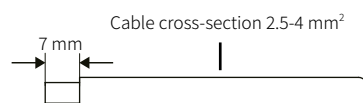

Fig. 16. Wire end stripping.
- b. Strip 7 mm of the insulation sleeve of the DC cable, as shown in Fig. 16: